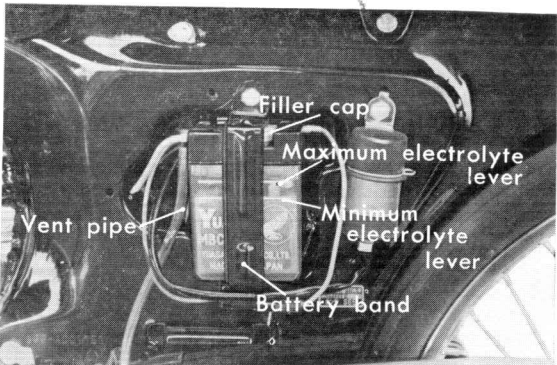

Figure 6-43. Battery electrolyte level
- b. Always maintain the electrolyte level above the lower electrolyte level marking on the battery. When replenishing, add distilled water to raise the electrolyte level to the upper marking. (Fig. 6-43)